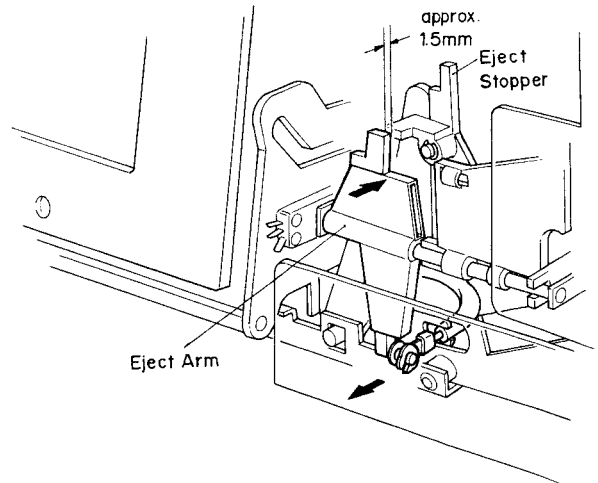

Fig. 4.20
- (1) Referring to Fig. 4.20, insert a 1.5 mm spacer between the Eject Arm and Eject Stopper by turning the Eject Arm in the illustrated direction, then set the N-480Z in Playback mode.